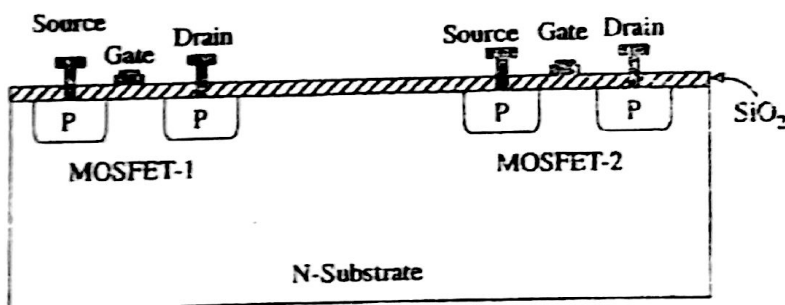

Fig. 31.25
- There is no need for isolation technique for enhancement MOSFET devices since each source and drain region is isolated from the other by the P-N junctions formed within the N-type substrate. This fact is shown in Fig. 31.25 where two P-channel E-MOSFETs have been fabricated from the same substrate.